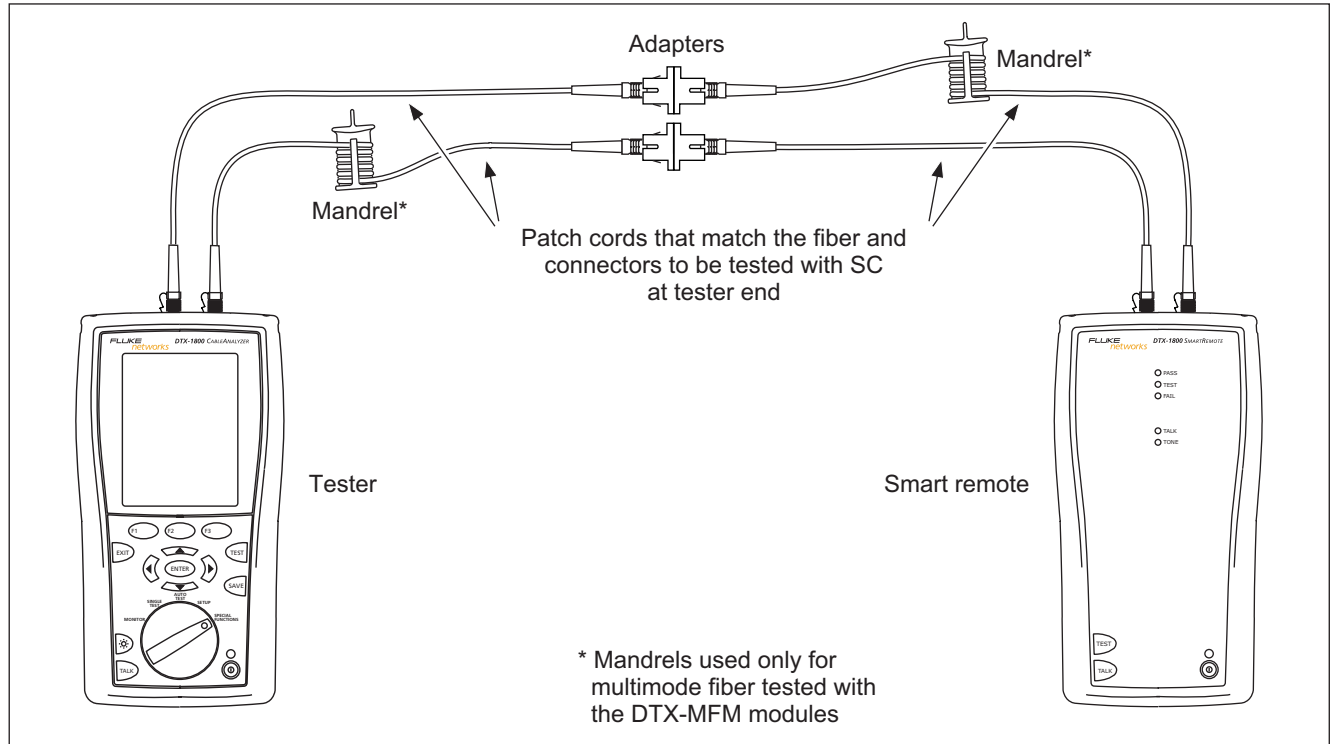

Figure 6. Smart Remote Mode Reference Connections (Modified Method B)
Figure 3 shows how to wrap the fiber around a mandrel. Place mandrels on the tester's output fibers, as shown in Figures 6 through 13.
- 4 The **Set Reference** screen shows reference connections for the test method you selected. Figure 6 shows connections for Method B. Clean the connectors on the testers and patch cords, connect the tester and smart remote; then press .